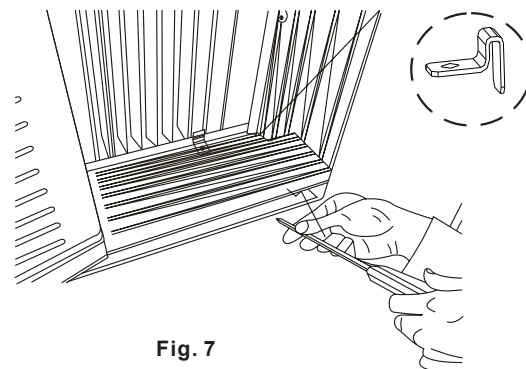

Fig. 7
- A. Place the frame lock between the frame extensions and the window sill as shown in Fig. 7. Drive 3/4" (19 mm) or 1/2" (12.7 mm) locking screws through the frame lock and into the sill.